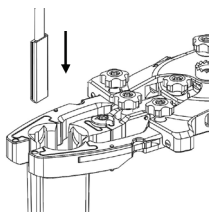

Figure 18
- Slide the shim tip of the **Light Cable** (ML-0068) into the shim channel of the blade (Figure 18).